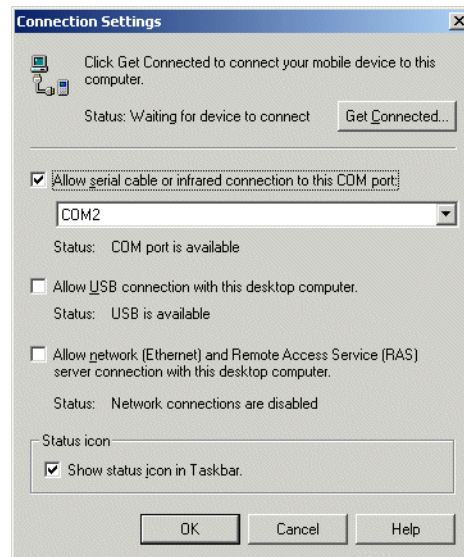

Figure 4-10. Serial Connection Settings
6. In the *ActiveSync* window, select *File - Connection Settings* and ensure the selections shown in Figure 4-10 are made. (Select the appropriate COM port for the host computer.)